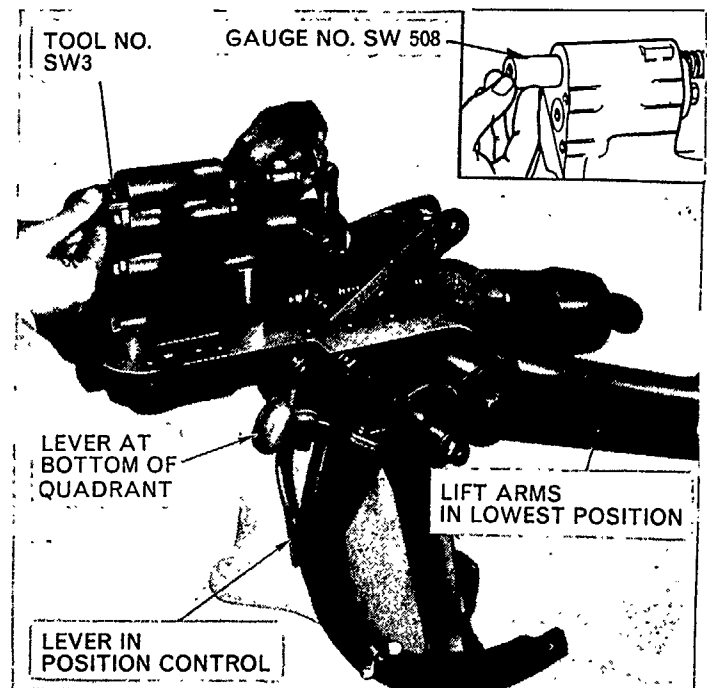

Figure 17
1. Place the selector lever in Position Control, Figure 17.